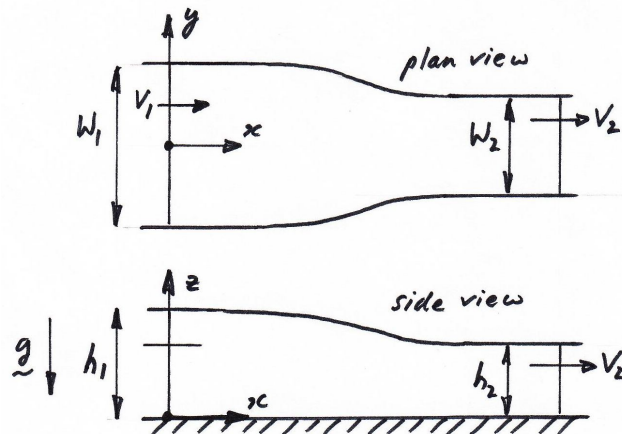

Figure P10.19
10.19 Water flows steadily with no losses in an open-channel flow that contracts in width, as shown in Figure P10.19. The velocity of the water at the upstream station is V_1 , the Froude number is F_1 , the width of the channel is W_1 , and the depth is h_1 . At the point of minimum cross-sectional area (the throat), the velocity is V_2 , the Froude number $F_2 = 1$, the width of the channel is W_2 , and the depth $h_2 = 3h_1/4$. Assume one-dimensional flow.